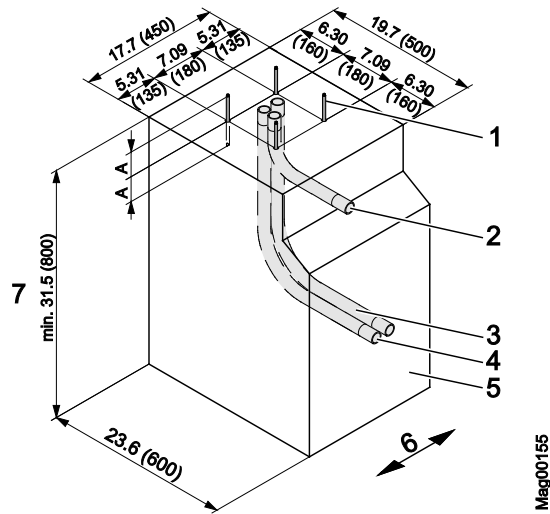

Fig. 14: Foundation plan
→ See page 51, Fig. 13 and page 53, Fig. 14.
→ See page 53, Fig. 14.
1. Dig foundation hole pursuant to Fig. 13 and Fig. 14.
3. Place empty conduits pursuant to Fig. 14 in the foundation hole.